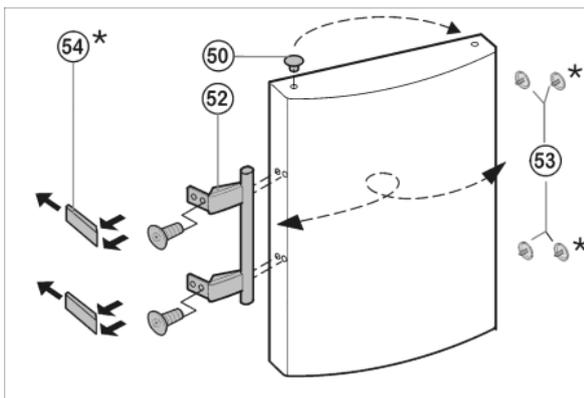

Fig. 13
- ▶ Lift the stopper Fig. 13 (50) out of the door bearing bush and transfer it.
- ▶ Detach door handle Fig. 13 (52), stopper Fig. 13 (53) and pressure plates Fig. 13 (54) and transfer to the opposite side.